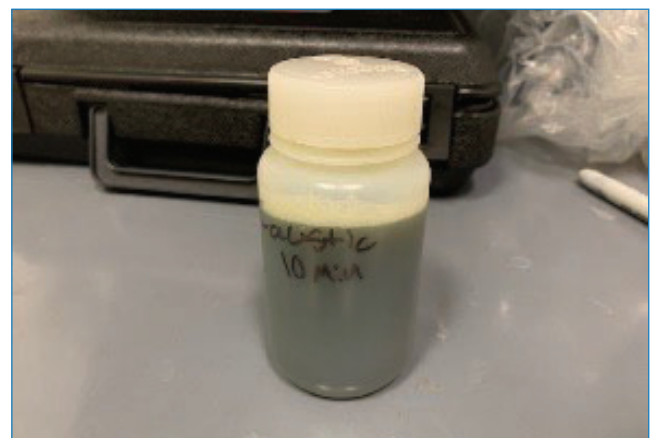

Figure 2.
9. Caustic concentration titration was hard to achieve given sample color (figure 2).